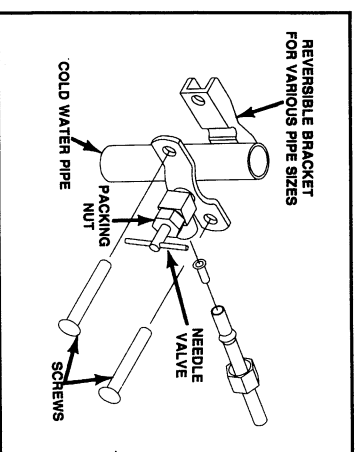

FIG. 7
3. Install the second screw and tighten (Fig. 7). Make sure the rubber washer stays centered on the piercing needle. Turn the valve handle in (clockwise) until the pipe is completely pierced. It may be necessary to tighten the packing nut to seal the valve.